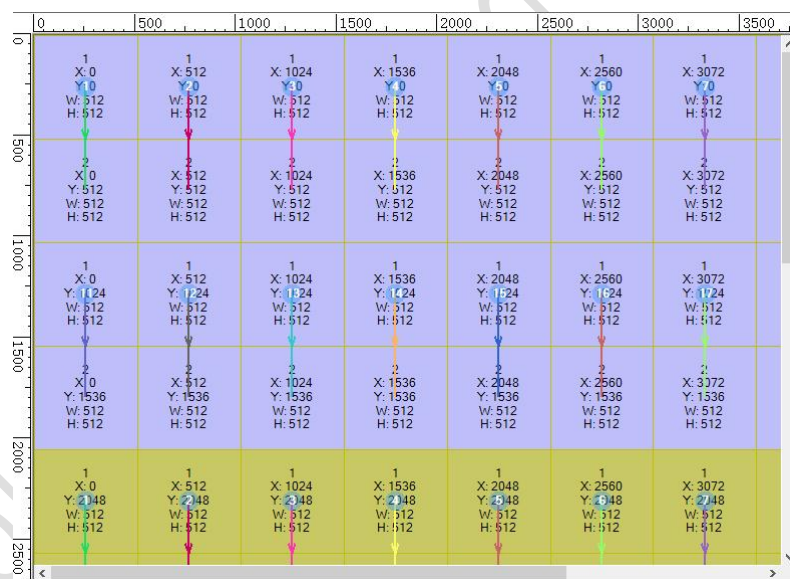

Fig 6.4.3.1 Mapping diagram
Step 1: Select sender's port according to actual cabinets, select , set the position, count, size, and selected style of the receiver cards that are connected to corresponding Ethernet ports to draw mapping diagram (See Fig 6.4.3.1 below).